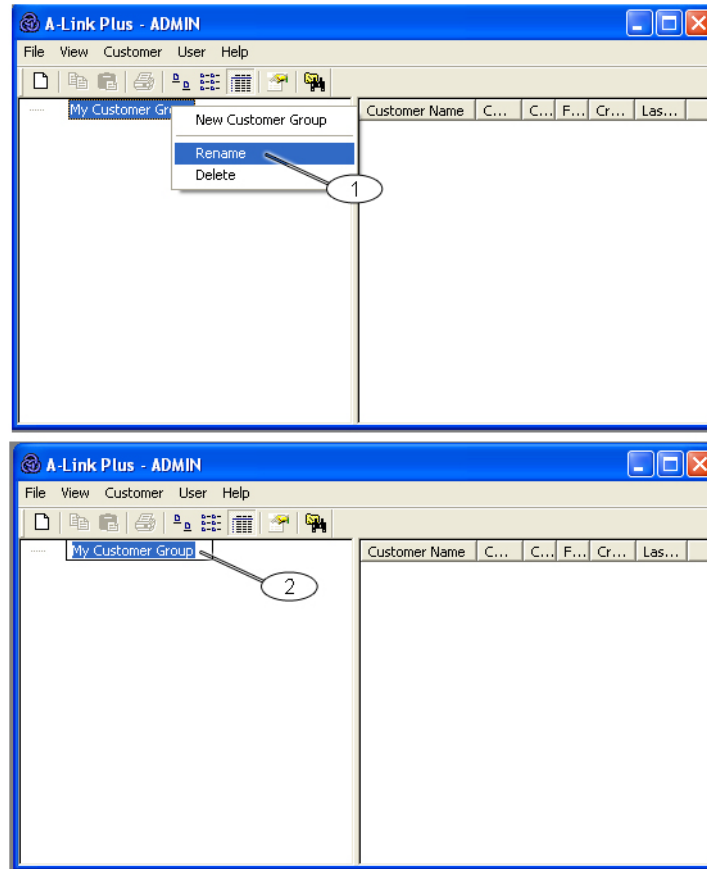

Figure 3.10 Rename a Customer Group
- Right-click the customer group and select **Rename** (refer to *Figure 3.10, Callout #1*), or
- Click the name of the customer group two times (once to select, pause, and then click again to rename), and change the name accordingly (refer to *Figure 3.10, Callout #2*).